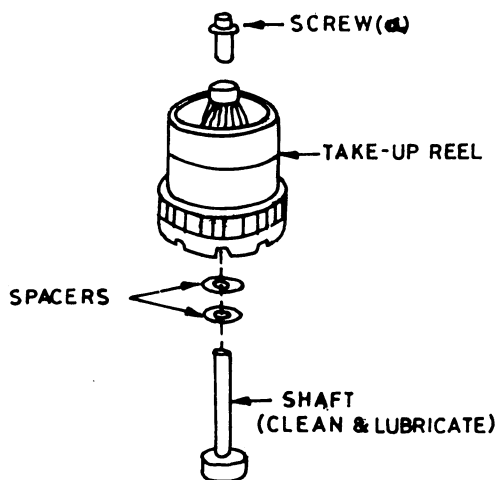

Fig. 10.5 Take-up reel cleaning and lubrication
3. Remove the take-up reel by unfastening screws as shown in fig. 10.5. If the spacers are used for height adjustment under the bottom of the supply reel, then make note of the number of spacers used.